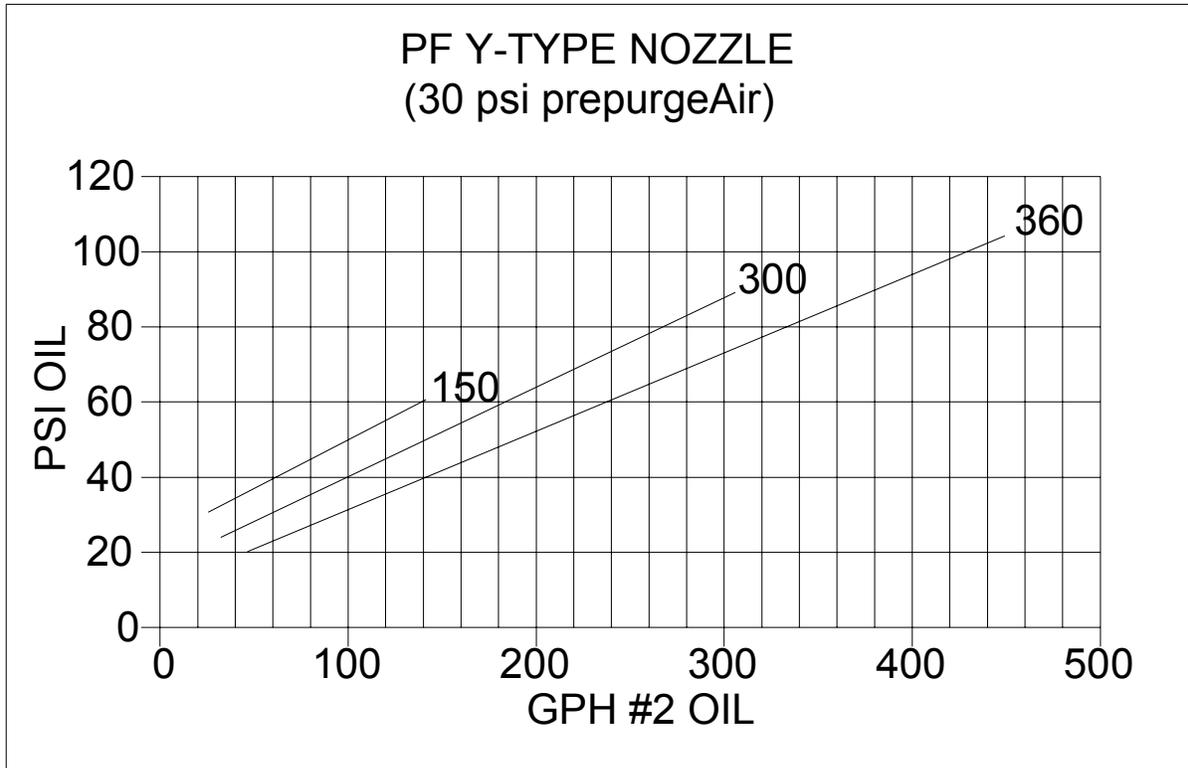

Figure 14: Pressure/Flow Curve for PF Y-Type Nozzles
- 3.4.4 Install oil pressure and vacuum gauges. See Figure 5 for mechanical operation and oil and air pressure gauge location for the system. Check suction line to be sure manual valve is open and that any check valves are opening in the proper direction of oil flow. Check oil filter for tightness. There should be no manual valve in the return line from pump to tank. Refer to Figure 14 for the approximate nozzle oil pressures for a specific firing rate. The corresponding atomizing air pressures will typically be 1 to 5 psi lower than the oil pressure at high fire. At low fire the atomizing air pressure will typically be 5 to 10 psi higher than the oil pressure.